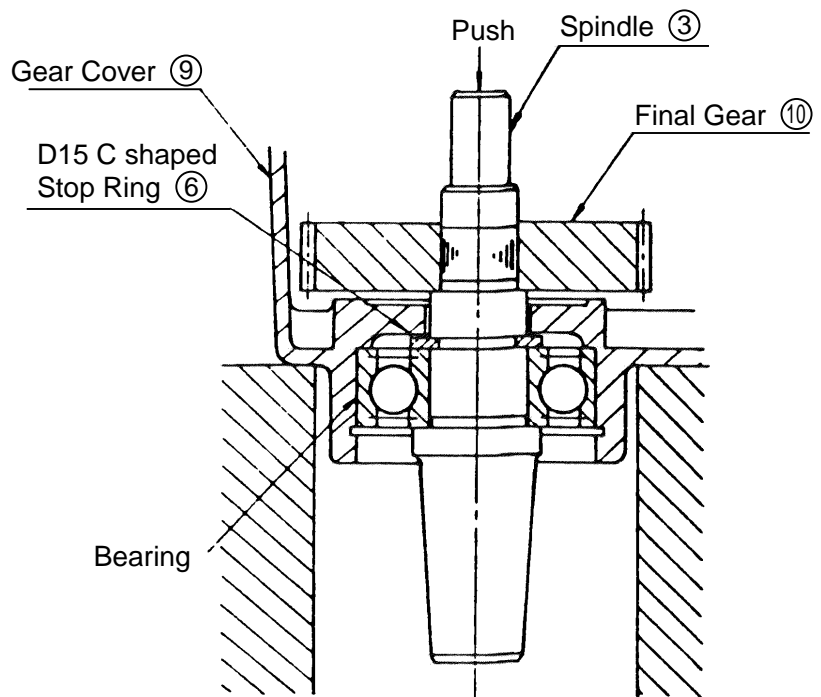

Fig. 7-3
### B. Remove the D35 C-shaped Stop Ring ④ retaining the Bearing ⑤. Then, as illustrated in Fig. 7-3, support the Gear Cover with a tubular jig, and push down on the end of the Spindle ③ to remove the Final Gear ⑩.